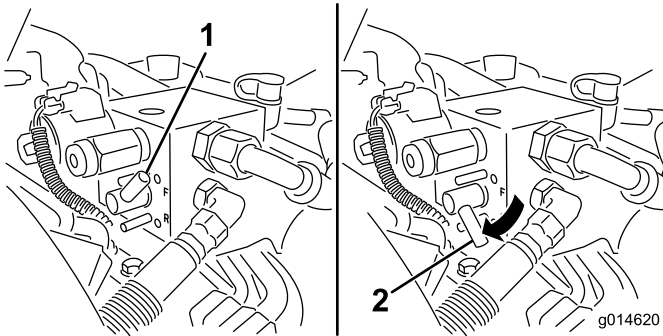

Figure 52
5. Rotate the Backlap Lever to the reverse (R) position (Figure 52).